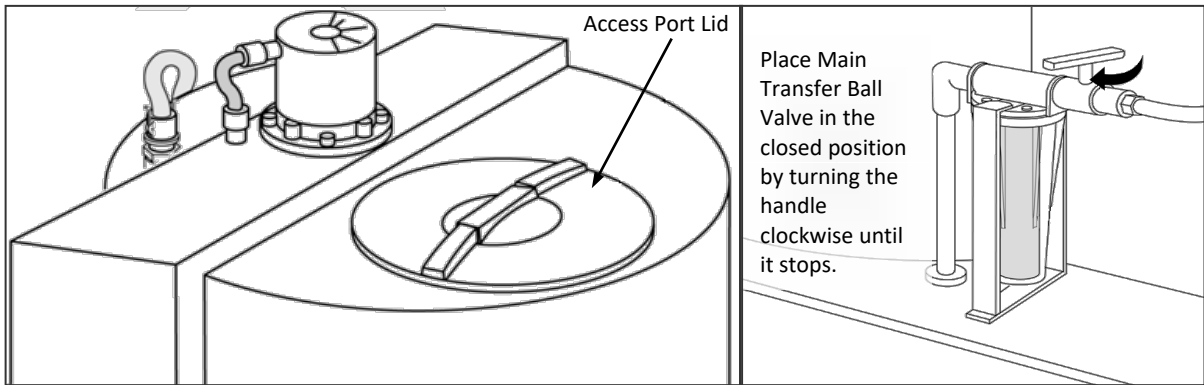

Figure 1
1. Before initiating the RINSE CYCLE, the operator must ensure that the Dry Acid Dissolution Unit Access Port Lid is in place (do not fully secure), and the Main Transfer Ball Valve is in the CLOSED position. Make sure the input water source is in the ON position (Figure 1).